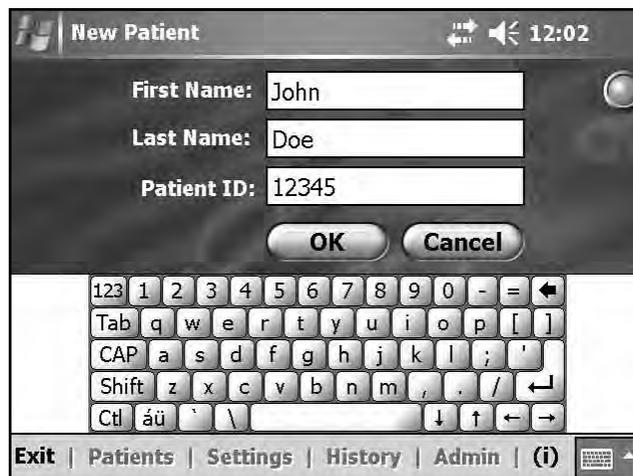

Figure 9-6: New Patient window.
2. When the New Patient window opens, enter the patient's first and last name (alpha characters only) **and** assign a patient ID number (numeric characters only). (All fields must be completed.) Then press **OK**. See Figure 9-6.